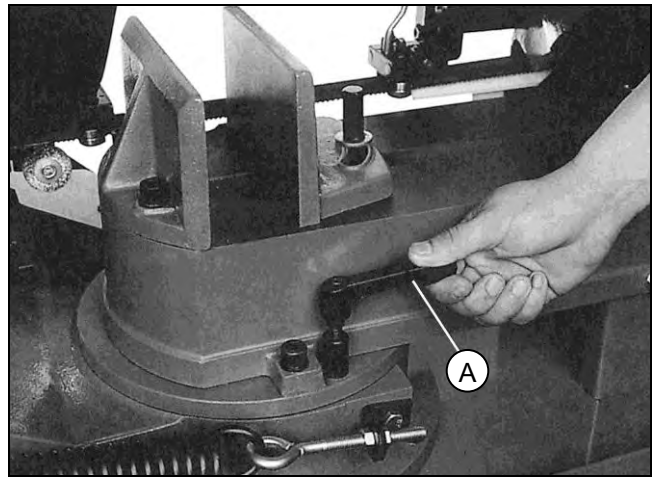

Fig. 9
1. Loosen handle knob (A, Fig.9).
3. Tighten handle knob (A, Fig.9).